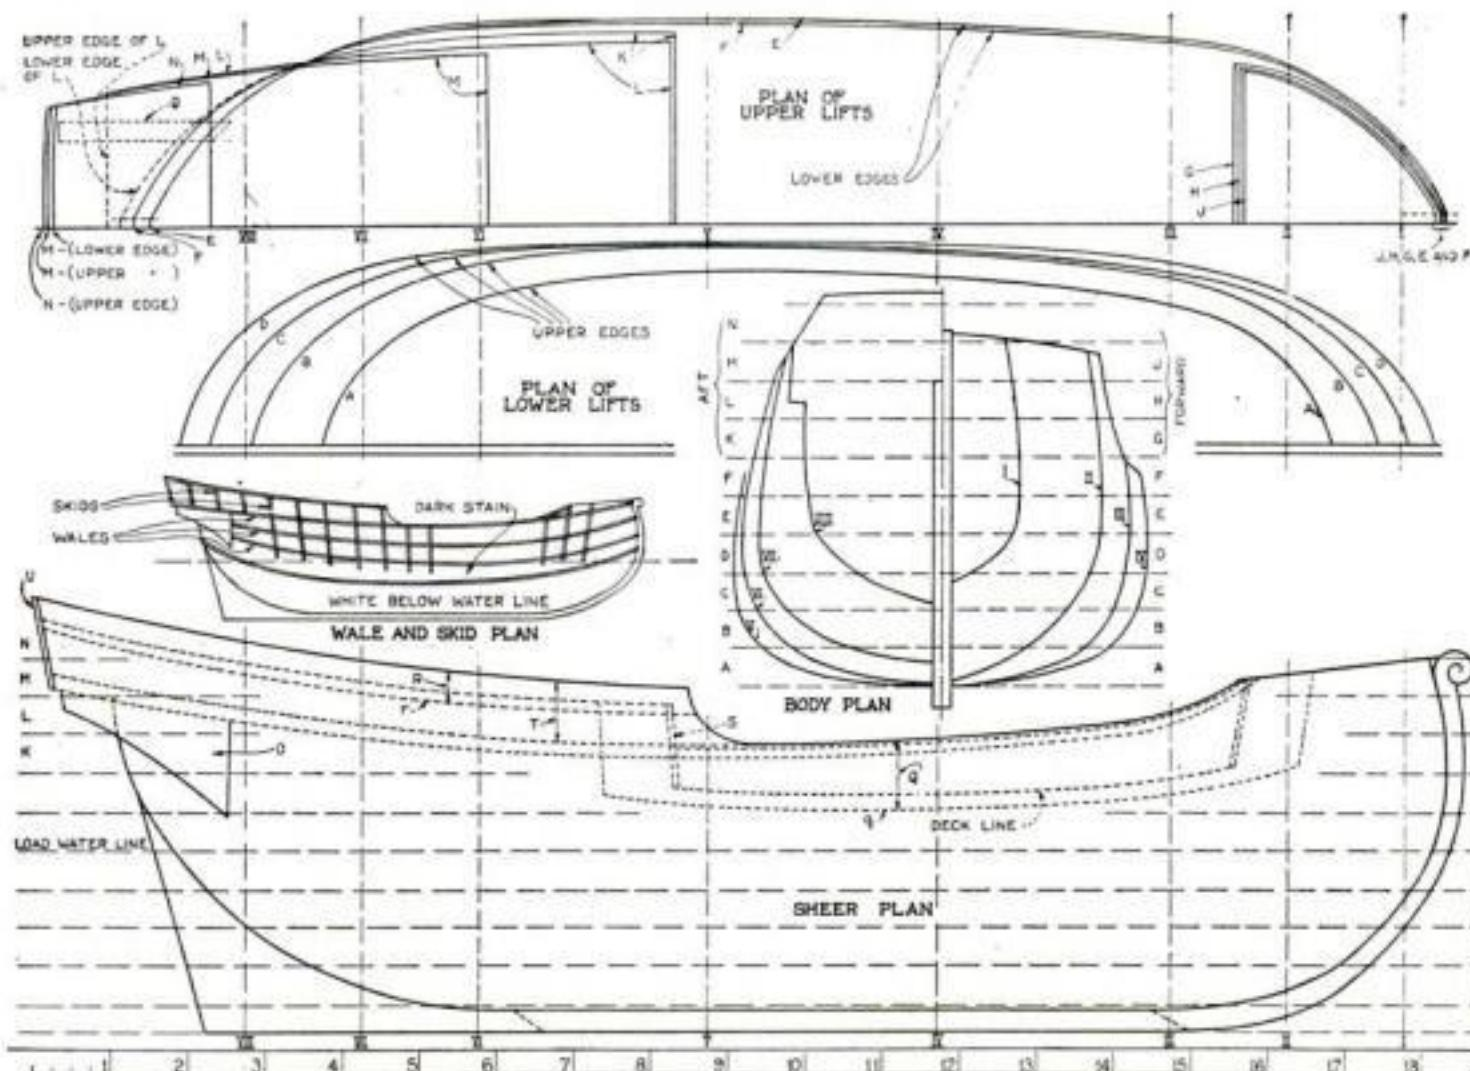

Fig. 1. Hull measurements, sheer and lift plans, and other important dimensions are clearly indicated
**I**N LOCALITIES where the water supply is delivered to your home at a pressure of fifty or sixty pounds you can arrange to let the water pressure do the work of pumping up your tires. All you need is an old water tank, the larger the better, and a few pieces of piping. Fig. 1 shows how the tank should be set up. Assuming that the tank is empty, when the water is allowed to flow in at the bottom from the supply pipe, the air in the tank is compressed until it equals the water pressure. If you attach the air hose to your tire valve, the compressed air flows into your tire as the water rises in the tank. The float valve is needed only to prevent water being forced into the tire when the air in the tank is all used up. To put the tank in condition for another series of pumpings shut the supply valve and open the drain cock. This allows the water to flow out of the tank and a fresh supply of air rushes in by way of the air hose. Since some pressure is required to overcome the valve spring, you cannot pump a tire up to a pressure exactly equivalent to the water pressure.
In Figs. 2 and 3 are shown the method of construction; the dimensioned parts are illustrated fully on Blueprint 72. With the two floor boards, Nos. 3 and 4, squared and sandpapered and the upper ceiling board No. 2 in shape, the position of the walls should be marked off carefully, using the plans in Fig. 1 as guide. Nos. 3 and 4 are each  $\frac{1}{2}$  by 27 by 33 in., while No. 2 is  $\frac{1}{2}$  by  $29\frac{1}{2}$  by 34 in. The main floor board is reinforced on the edges with a 1 by 2 in. strip marked 4A in Fig. 3; this extends all the way around the edge and across the middle.